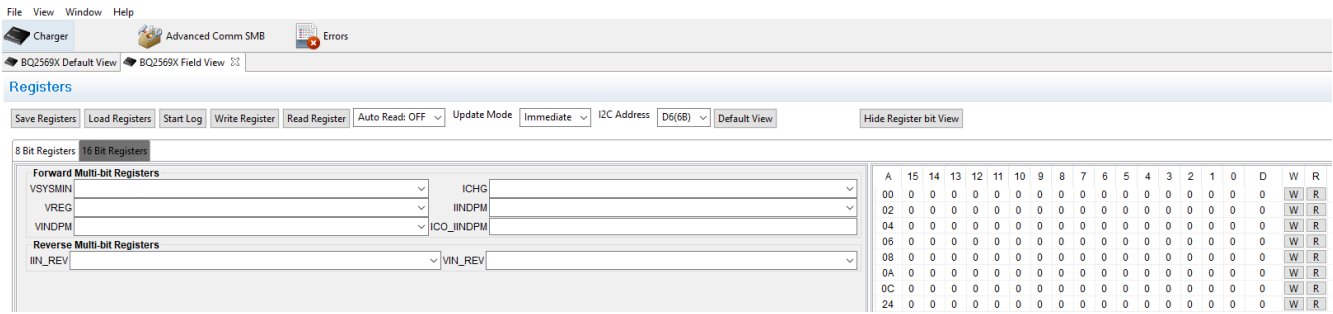

Figure 3-2. Field View of 8 Bit and 16 Bit Register Tabs of BQ2569x EVM Software
3. Toward the right side of the ribbon on the window that appears select  for the main window of the BQ2569x EVM software to appear, as shown in Figure 3-2.
2. In the Field View (see Figure 3-2), make the following changes as necessary: